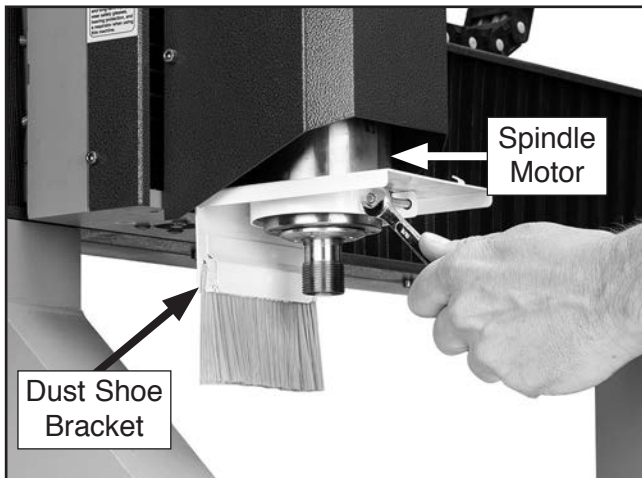

Figure 15. Attaching dust shoe bracket.
1. Attach dust shoe bracket to spindle motor (see **Figure 15**).